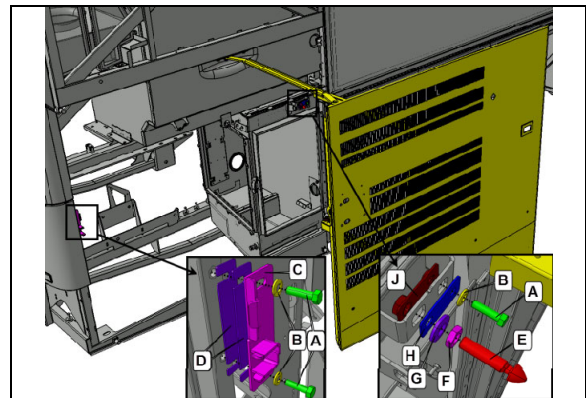

FIGURE 61
9. Install strike plate C and pin E centered in the available adjustment position provided by respective slotted holes (FIGURE 61). The components should be snug but not tight so that they can move when the door will be closed later on in this procedure.